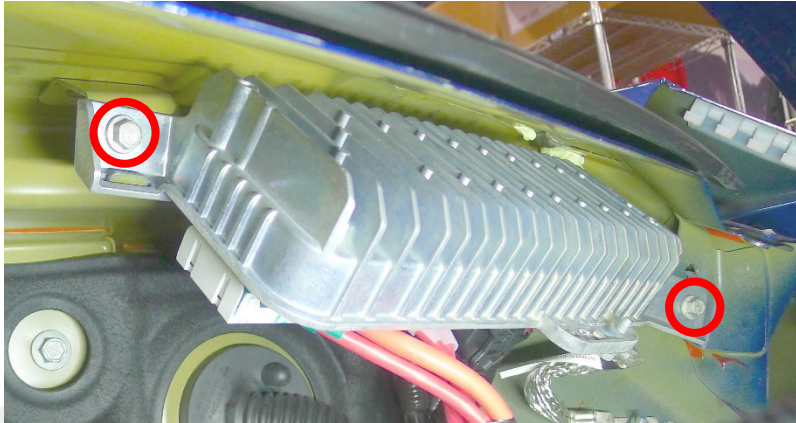

Figure 34
- b. Position the battery controller module to the bulkhead, and then install the bolts (x2) that attach the module to the bulkhead (torque 10 Nm) (Figure 34).